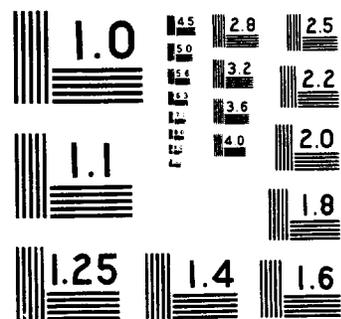

Fig. 1 - Resolution Test Chart
- 4.01 *General:* Resolution is a measure of the sharpness of an image, and is expressed in the number of lines per millimeter which can be distinguished. Resolution of duplicate microfilm is measured by examining a duplicate copy of a microfilm test chart (see Fig. 1) under a microscope to determine which of the 21 patterns on the test chart is the smallest pattern in which lines can be distinguished both horizontally and vertically. The number adjacent to this pattern multiplied by the reduction ratio at which it was photographed indicates the resolution in number of lines per millimeter. Test target images for checking the resolution of duplicate microfilm are the copies of the test target images on the duplicate microfilm.